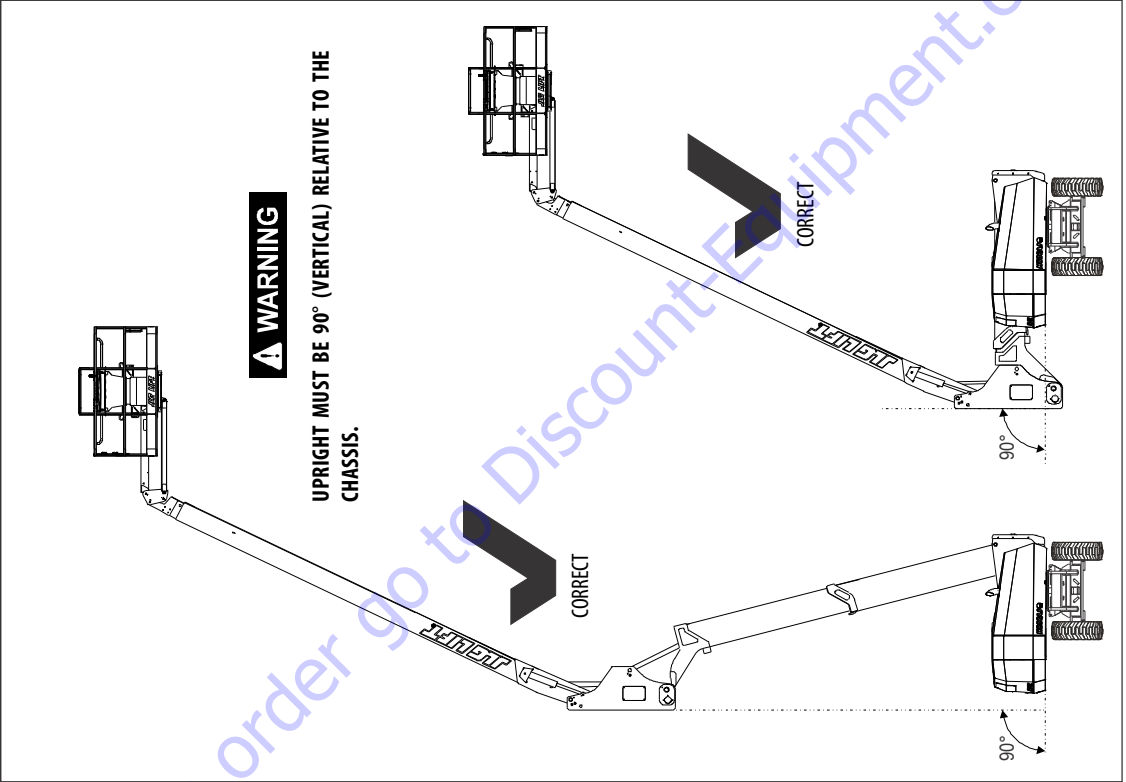
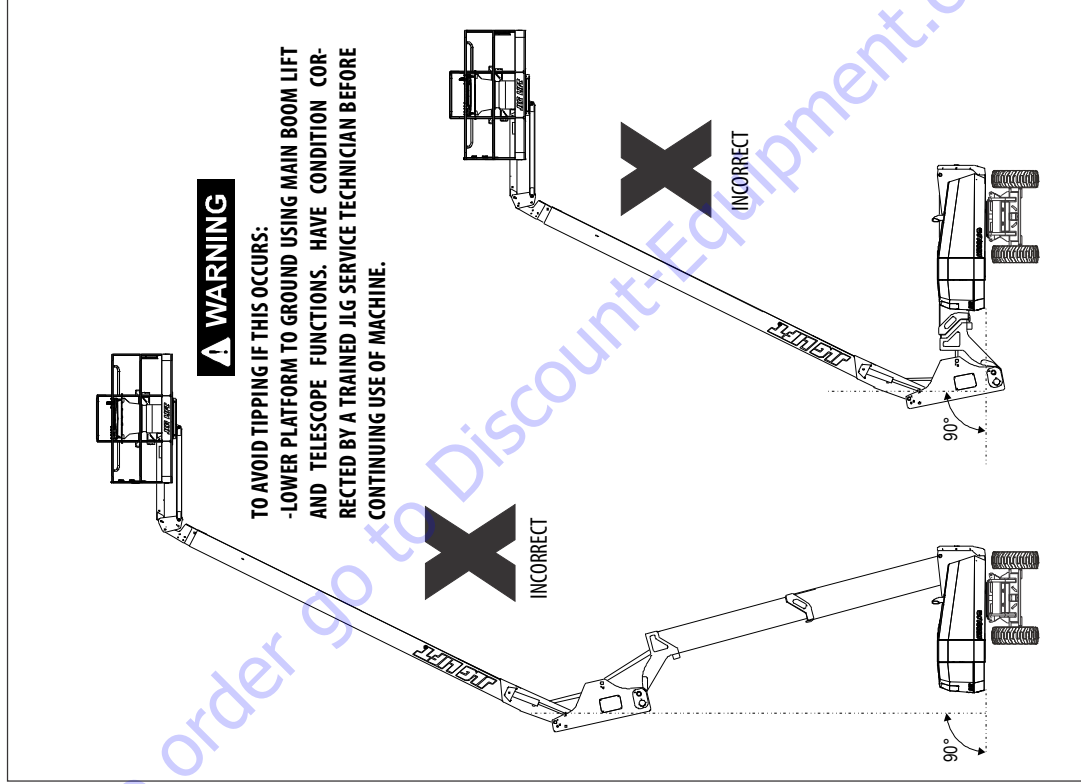

Figure 2-5. Boom Upright Positioning - Correct
Figure 2-6. Boom Upright Positioning - Incorrect
- c. Raise the tower base boom to approximately 40 degrees, then lower the tower boom back to the below horizontal position. While raising and lowering the tower boom assembly, observe the position of the upright. Ensure that the upright remains vertical relative to the chassis. Refer to Figure 2-5. and Figure 2-6.